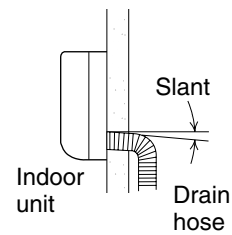

Fig. 3-51
- a) The drain hose should be slanted downward to the outdoors. (Fig. 3-51)